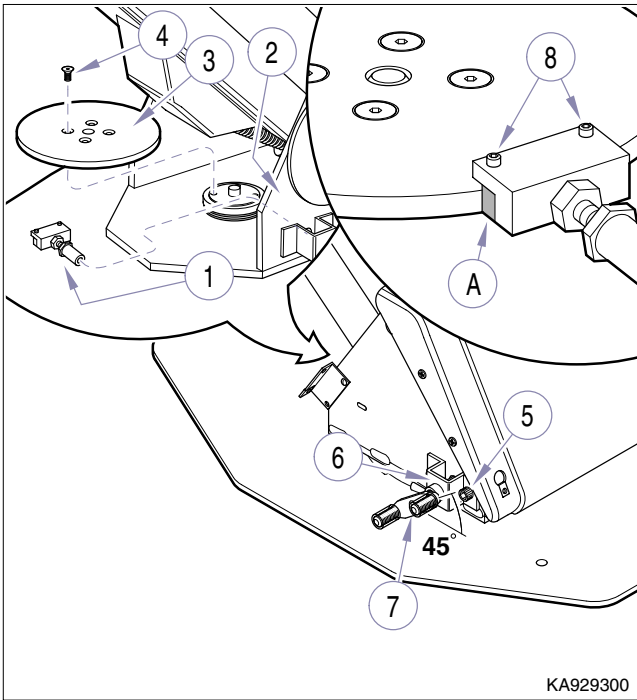

Figure 4-24. Rotational Brake Adjustment
- (1) Loosen two screws (5, Figure 4-24) securing rotational lock bracket (6) to upright housing assembly (2)